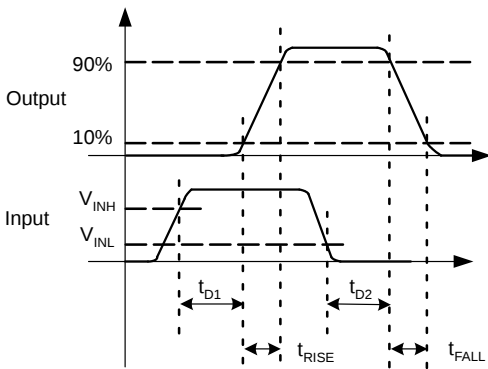
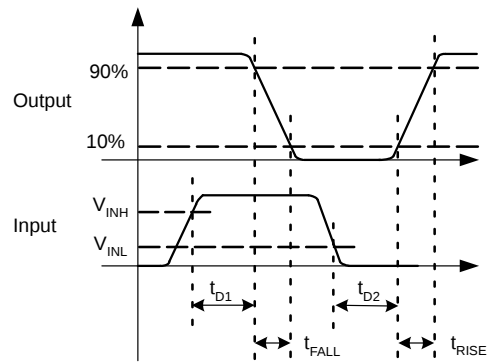
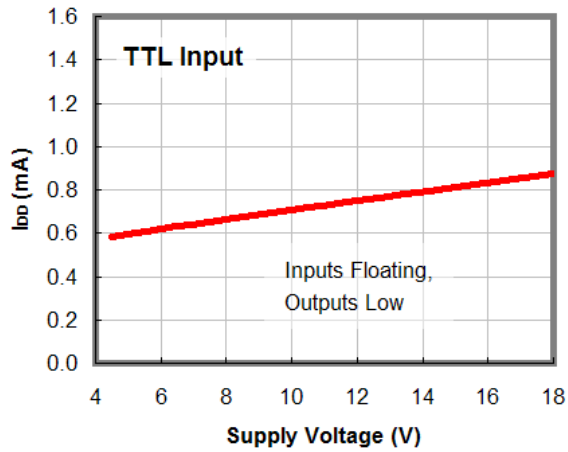
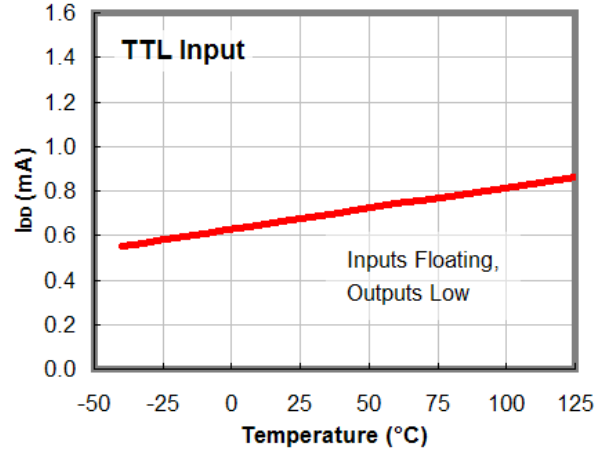

Figure 6. Non-Inverting Timing Diagram
Figure 7. Inverting Timing Diagram
Figure 8. I_{DD} (Static) vs. Supply Voltage (Note 11)
Figure 9. I_{DD} (Static) vs. Temperature (Note 11)
9. See Timing Diagrams of Figure 6 and Figure 7.
11. For any inverting inputs pulled low, non-inverting inputs pulled high, or outputs driven high, static I_{DD} increases by the current flowing through the corresponding pull-up/down resistor shown in Figure 6 and Figure 7.
In the I_{DD} (static) typical performance characteristics shown in Figure 8 and Figure 9, each curve is produced with both inputs floating and both outputs LOW to indicate the lowest static I_{DD} current. For other states, additional current flows through the 100 k Ω resistors on the inputs and outputs shown in the block diagram of each part (see Figure 6 and Figure 7). In these cases, the actual static I_{DD} current is the value obtained from the curves plus this additional current.